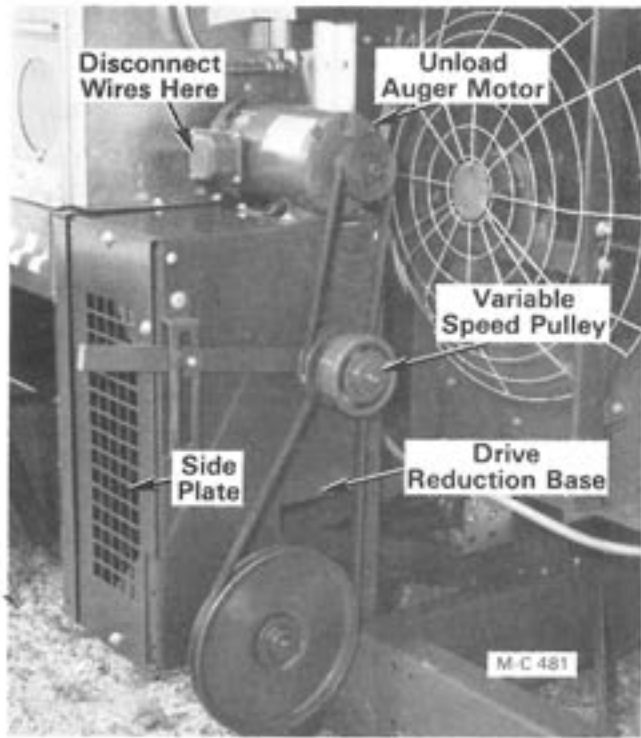

Figure 1
1. Remove the variable speed pulley guard and the drive reduction base side plate, see Figure 1.